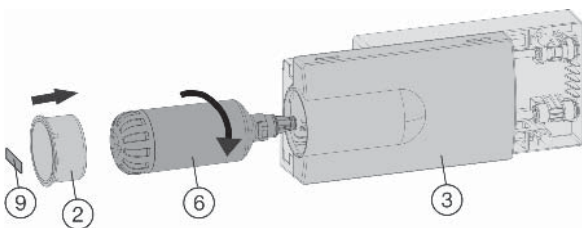

Fig. 41
- ▶ Place the tray cover *Fig. 41 (3)* into position.
- ▶ Remove the film from the water filter *Fig. 41 (1)*.
- ▶ Insert the water filter *Fig. 41 (6)* and turn it approximately 100° to the right until it locks into position.
- ▶ Place the cover on the filter *Fig. 41 (2)*.
- ▶ Write the date of the next filter replacement on the supplied adhesive label *Fig. 41 (9)* and affix it to the module.